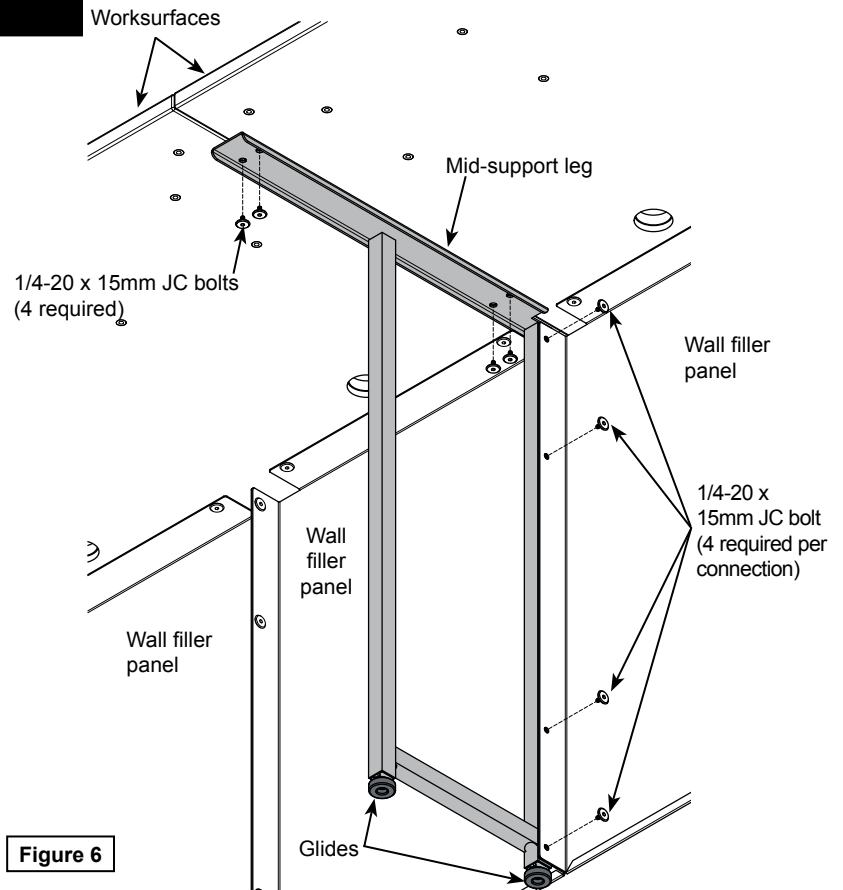

Figure 6
1. Install the (2) glides onto the bottom of the leg. The glides can be adjusted later to level the console.
2. Align the mid-support leg and wall filler panel mounting holes as shown. **Figure 6.**
3. Attach the mid-support leg to the wall filler panels with (4) 1/4-20 x 15mm JC bolts.
5. Attach to worksurfaces with (4) 1/4-20 x 15mm JC bolts